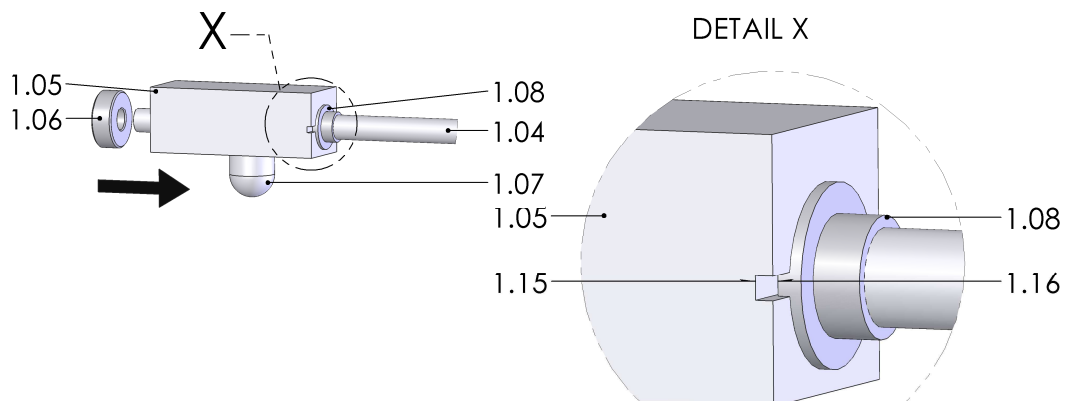

FIG. 4 ASSEMBLY OF STANDARD PENDULUM HAMMER
- Switch on electronic unit by pressing power switch (3.08, Fig. 4)